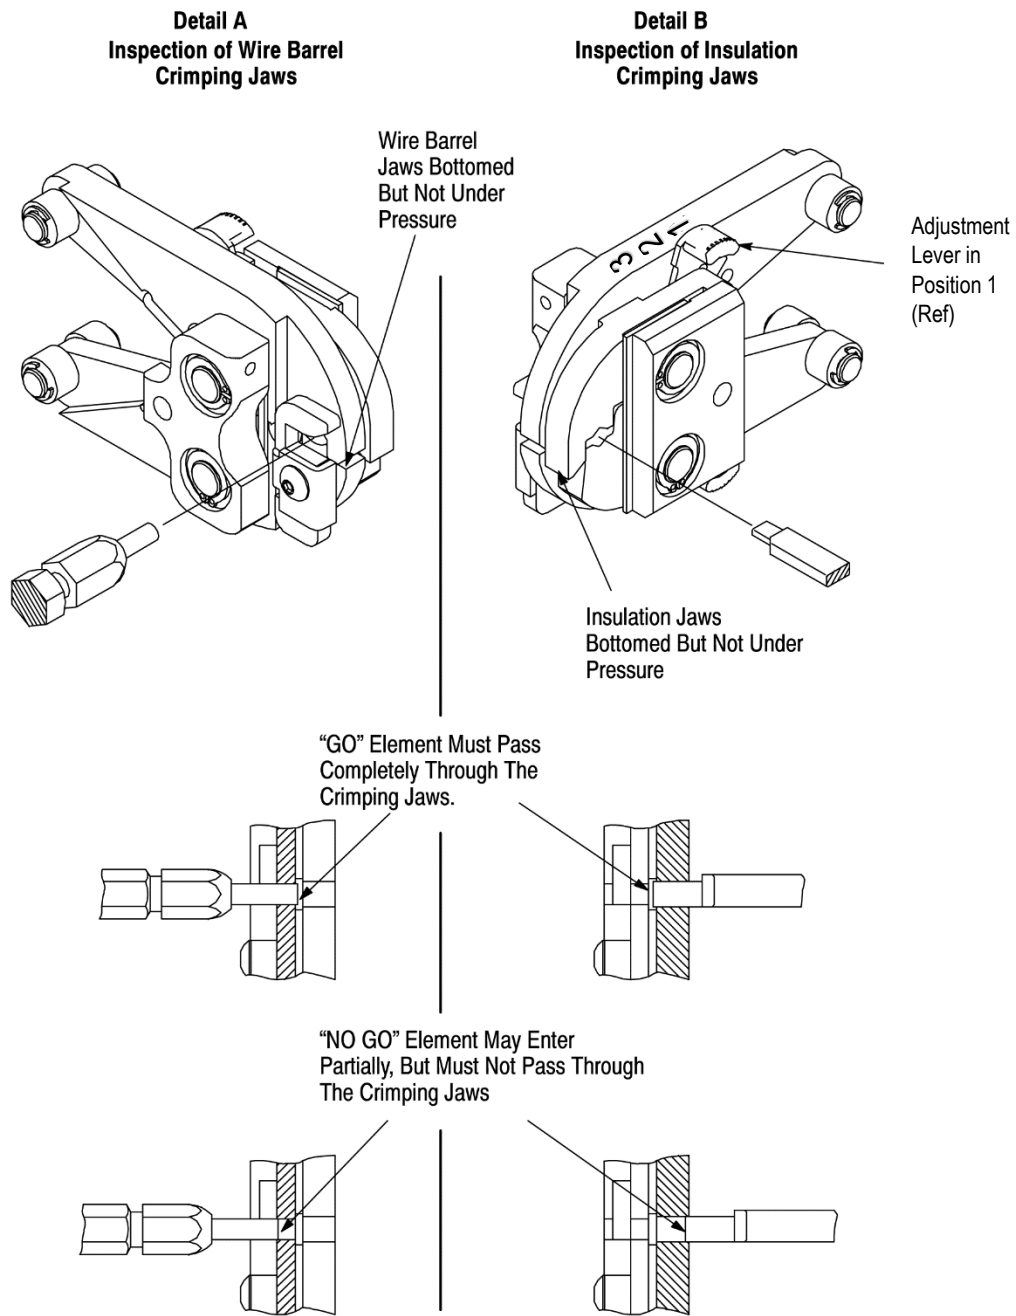

Figure 9
3. Align GO element with wire-barrel crimping chamber. Push element straight into crimping chamber without using force. The GO element must pass completely through the chamber as shown in Figure 9, Detail A.
Repeat this procedure for the insulation-crimp chamber using a plug gage as shown in Figure 9, Detail B.
This revision resulted in formatting changes to most sections and the re-positioning (but not re-numbering) of some figures. Highlights include updating to the current TE format, logo, and enterprise name, and editing Detail B of Figure 9.